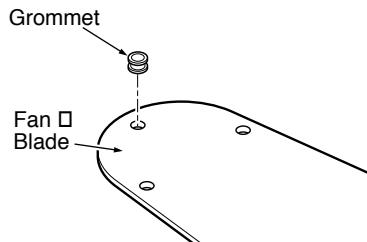

Figure 7a - Inserting Grommet into Fan Blade
1. Your fan may include blade grommets. If your fan has grommets, insert them by hand into the holes as shown in Figure 7a.